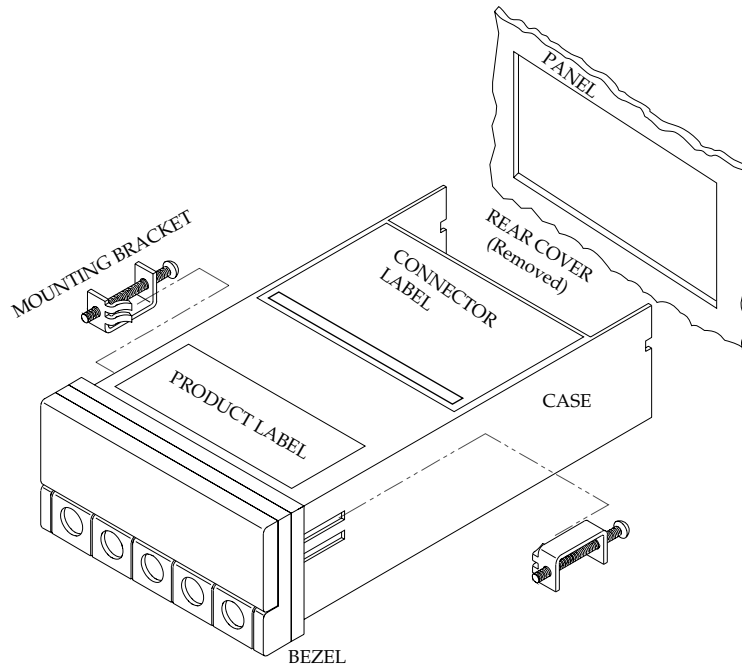

Figure 6-3. Meter - Exploded View
1. Cut a hole in your panel, as shown in Figure 6-3. For specific dimensions refer to Section 25, Figure 25 -1.